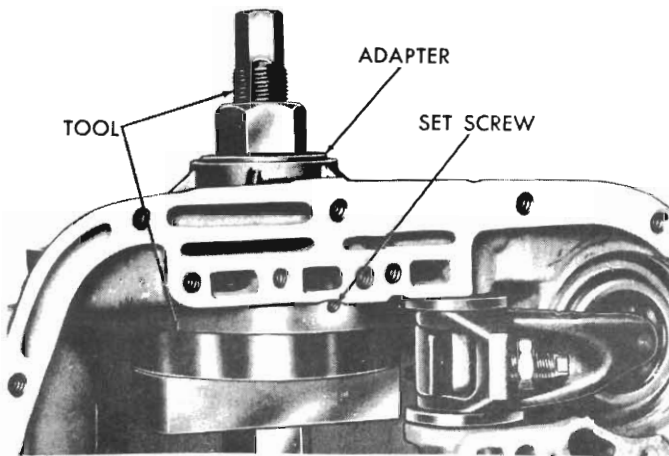

Fig. 92 - Installing overrunning clutch cam (A-727)
(5) Position cam in the case with cam serrations aligned with those in the case. Tap cam *evenly* into the case as far as possible with a soft mallet.
(6) Install Tool E21C30C and Adaptor SP-5124 as shown in Fig. 92, tighten nut on tool to seat cam into the case. Make sure cam is firmly bottomed, then install cam retaining set screw. Stake the case around set screw to prevent it coming loose.